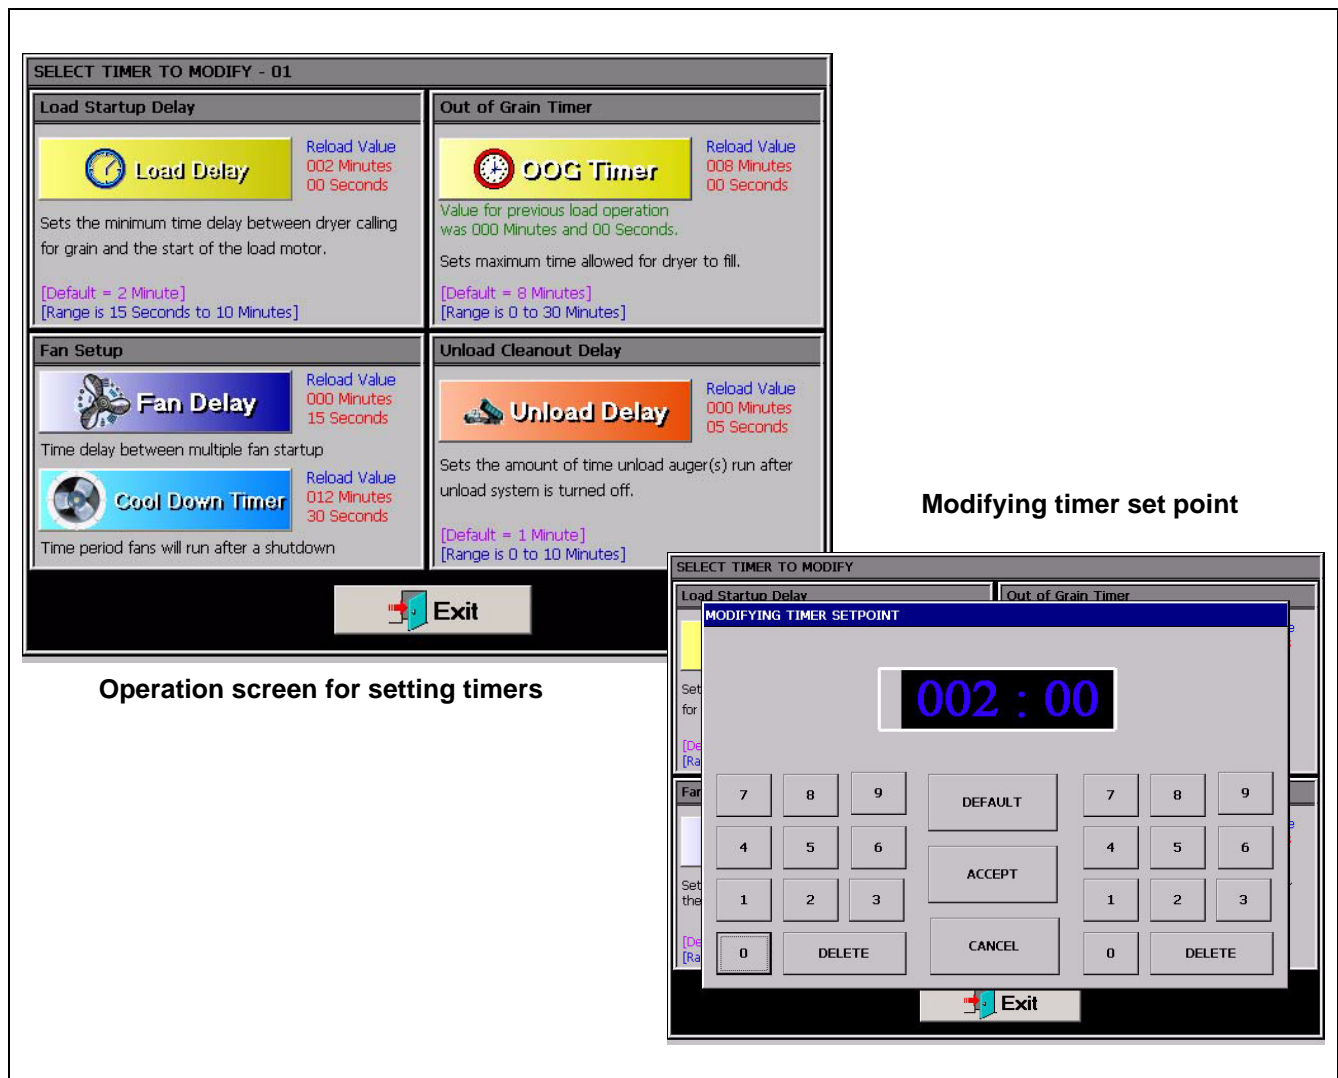

Figure 6C
Setting the timers for the dryer is a simple procedure. To set the timers, touch the  **Timers** button at the bottom of Operation screen. A new screen will appear called the Select Timers to Modify screen. (See Figure 6C on Page 26.) As you can see there are five (5) timers that you can modify:
To setup a timer touch the button of the timer you wish to modify. The Modify Timer Set Point screen will then be displayed. (See Figure 6C.) Note that there are two (2) number pads on this modify screen. The left number pad is used to modify the minutes and the right number pad will modify the seconds. Touching the Default button will automatically set the timer to the default set point for that timer. The Accept button will save the timer set point displayed in the time display. Touching Cancel will exit the Modify Timer Set Point screen without saving any changes and the timer will stay at the currently saved set point.